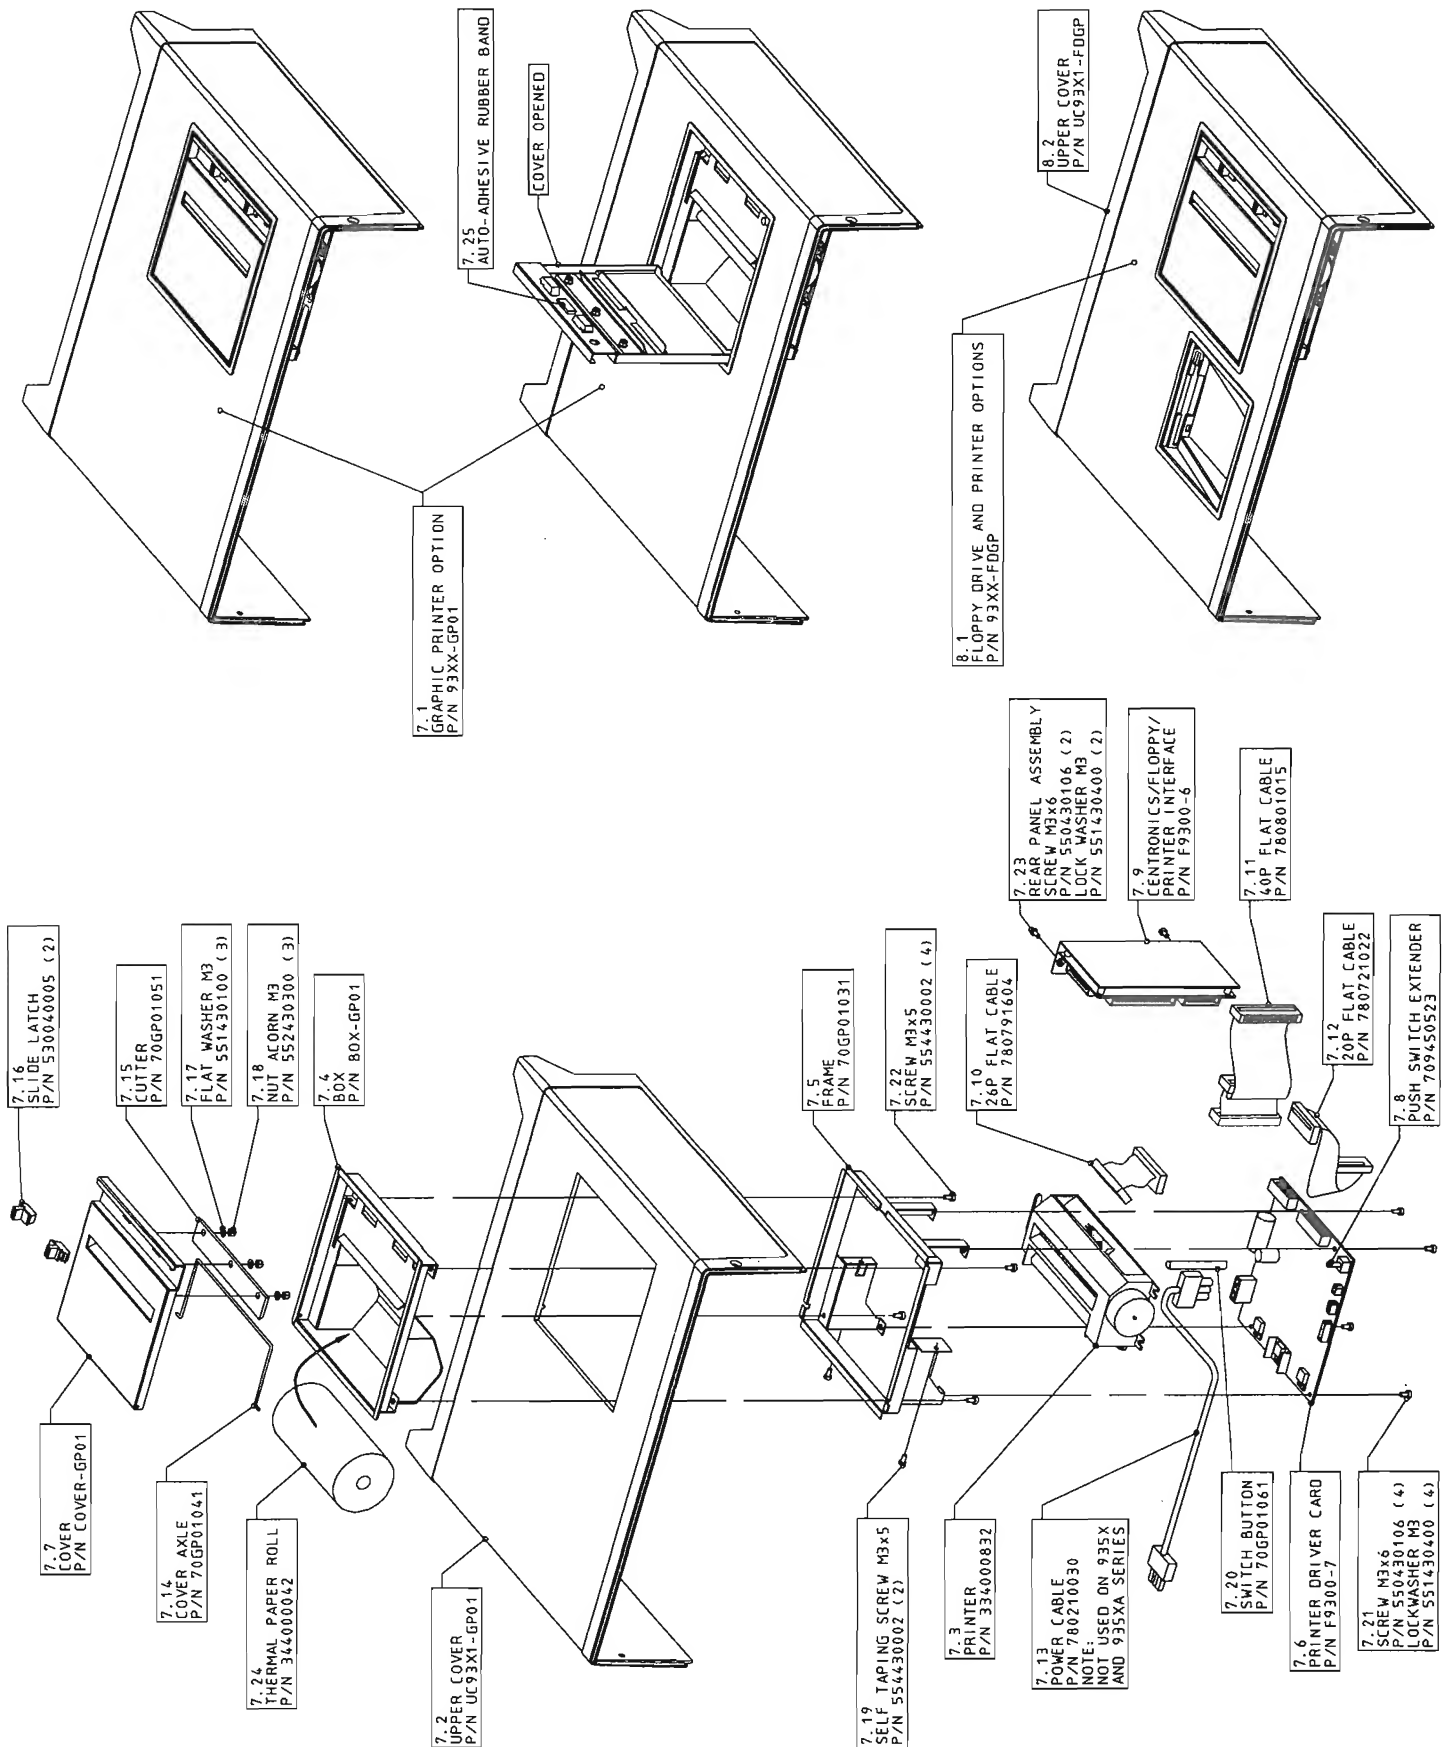

Figure 7.6 : 9354A/T Graphic Printer Assembly
- Disconnect the flat ribbon cable from the F9300-6 interface (see figure 7.6).
- Disconnect the flat cable from the F9300-4 GPIB/RS232 board (see figure 7.6 or 7.7).